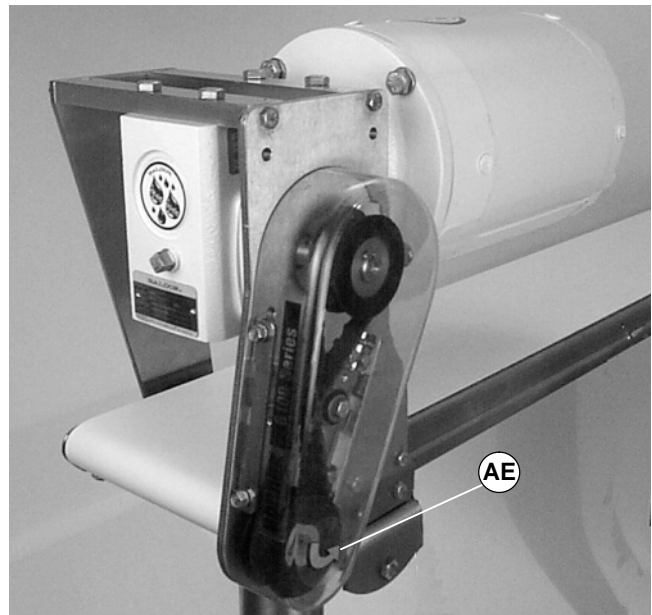

Figure 26
**IMPORTANT:** On a flat belt conveyor, the wiper is installed on discharge end. Belt travel direction is identified by an arrow on the drive cover (AE of Figure 26). With a reversing gearmotor, a second bottom wiper must be installed on opposite end.